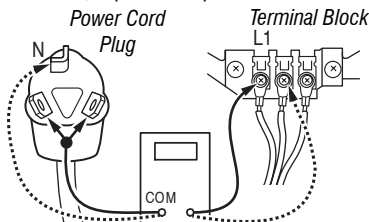

Figure 3a - Plug-to-terminal connections for electric dryer.
3. With an ohmmeter, check for continuity between the neutral (N) terminal of the plug and the center contact on the terminal block. See figure 3a.
4. In a similar way, check which terminal of the plug is connected to the left-most contact on the terminal block and make a note of it. This will be L1 (black wire) in the wiring diagram. See figure 3a.